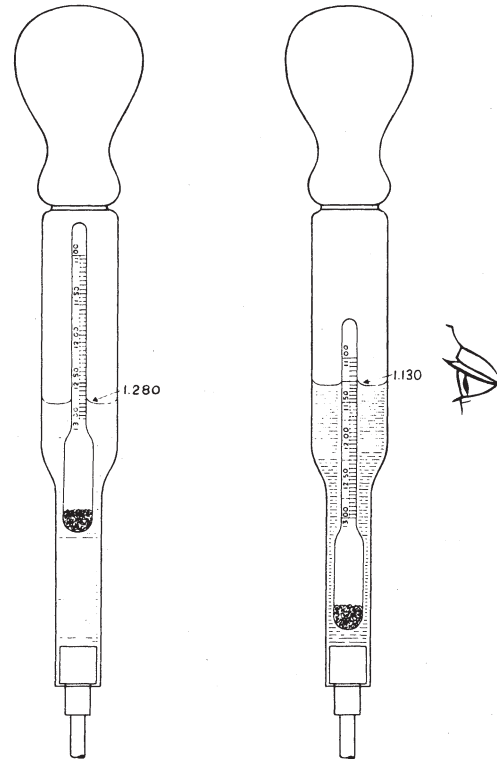

Figure 1
6.2 Specific gravity is expressed to the third decimal place, e.g. 1.250, and is measured by a hydrometer float enclosed in a glass barrel/rubber bulb syringe. Holding the hydrometer vertically, draw sufficient electrolyte into the barrel. The reading should be taken when a) no hand pressure is being exerted on the bulb and b) the float is not touching the side of the hydrometer glass. The gravity is then read on the hydrometer scale at the flat surface of the electrolyte. (See Figure 1).